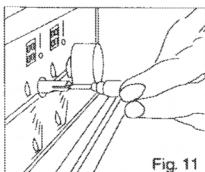
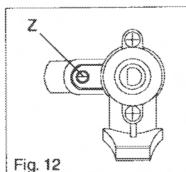

Fig. 11
Fig. 12
- In order to adjust the minimum, act as follows: switch the burner on, and turn the knob towards the minimum flow position . Remove the knob from the tap, introduce a little screwdriver in the tap rod (fig. 11). Attention: in taps with security valve, the minimum adjusting screw "Z" is placed outside the rod tap (fig. 12).